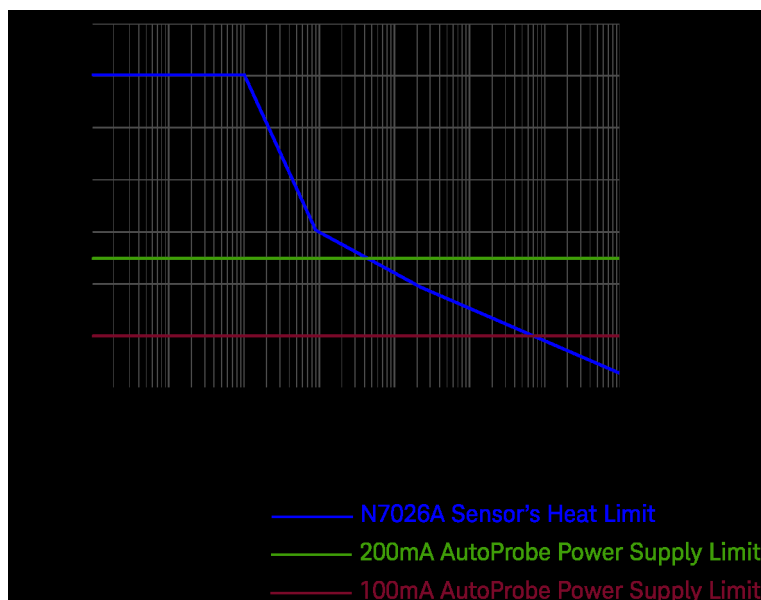

Figure 3 Maximum Continuous Input Current Range of N7026A
- The N7026A's sensor heats up due to current consumption. If the current being measured exceeds the allowed current range, the sensor overheats and can get damaged. This maximum continuous current range is depicted as per sensor's heat limit in Figure 3 and varies according to the frequency of the current being measured.
The derating curve shown in Figure 3 relates the maximum continuous current range of the N7026A with the frequency of the current being measured. In this curve, the above-mentioned heat limit of the sensor as well as the oscilloscope's AutoProbe power limits have been included to depict the maximum continuous current range. Use the lower of these two limits as the maximum continuous current range for your specific probing scenario.